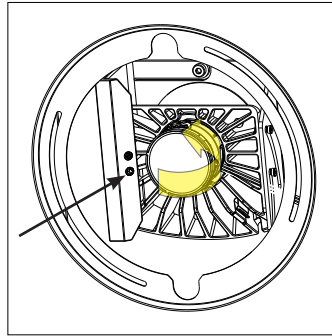

fig. 19 (rotate)
- b. Using the same 4 mm hex tool, use the rotate control point to rotate the optic (see fig 19).